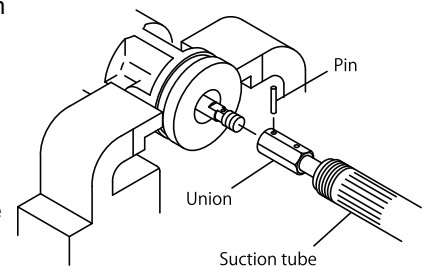

Fig.11
- 7) Pull apart the suction tube a little, and the union connecting between the air motor and the rod becomes visible. Pull out the pin and unscrew it for removal. (Fig.11)